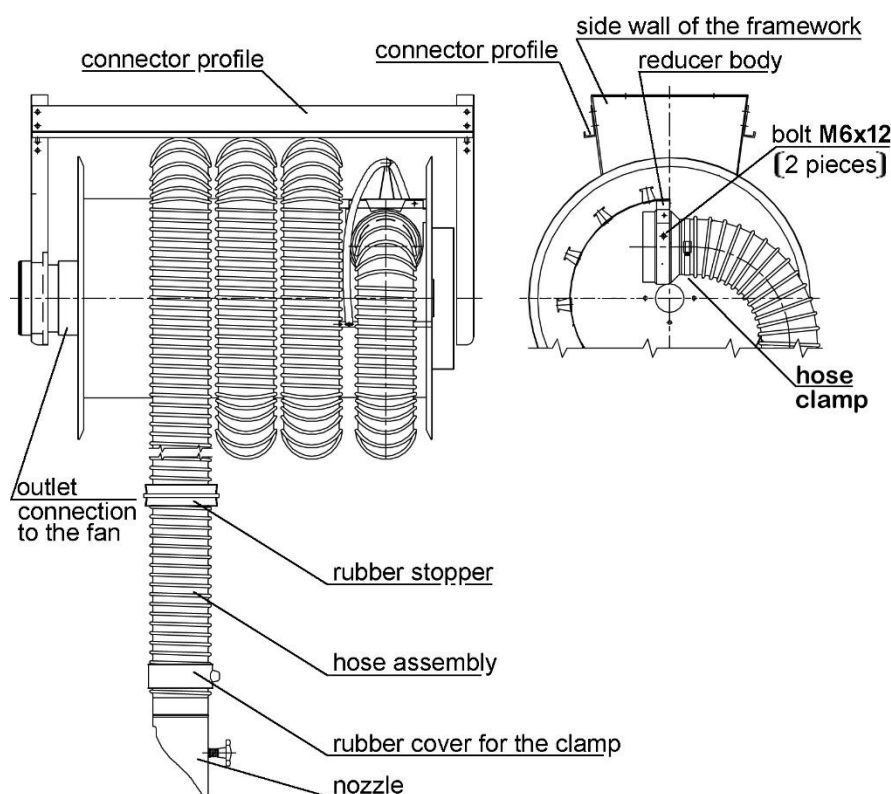

Fig. No.3 – Hose assembly – installing
3. Put the hose assembly inside the reel – screw up the reducer to the reducer body with 2 screws (Fig. No.3).